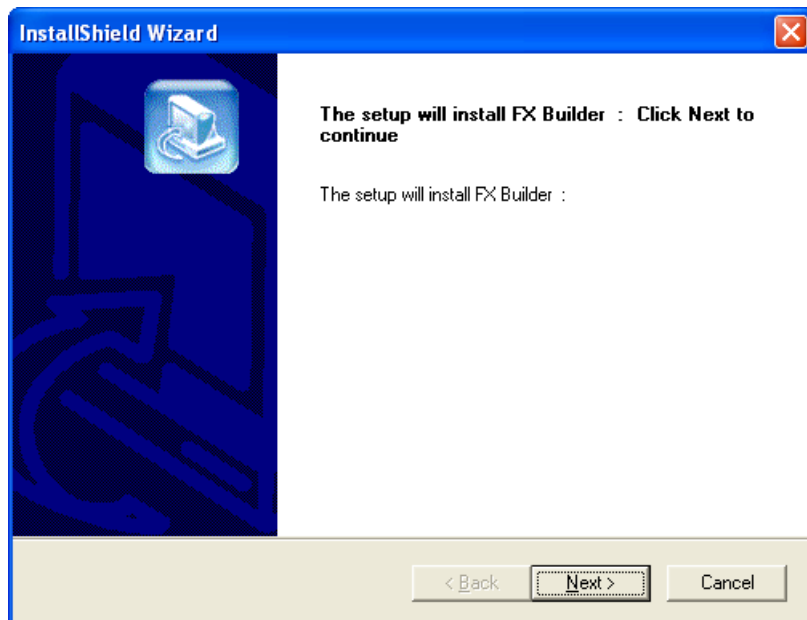

**Figure 4: NET Framework Not Installed Error**
**Note:** If .NET Framework is not installed, an error message appears (Figure 4) and the installation process ends.